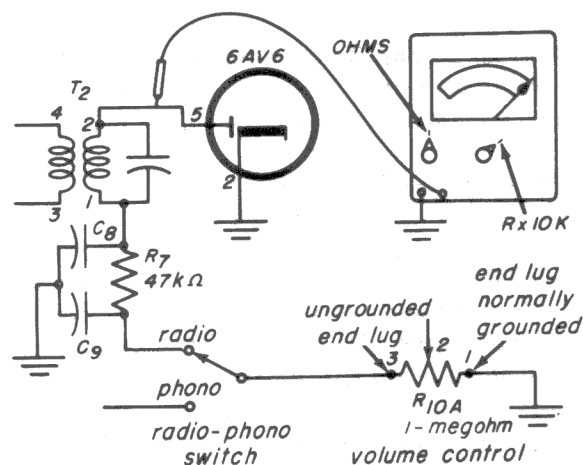

Fig. 19-10
There is a continuous electric path between the diode plate and the volume control (Fig. 19-10). Turn the volume control maximum clockwise. Touching the diode plate with your finger-held screwdriver is the same as touching the volume control. When you touch the plate, you should hear a hum or buzz from the speaker—just as you hear a hum when you touch the volume control. If you do not hear the hum when you touch the diode plate, this means that the continuous path to the volume control is broken.
Check with your ohmmeter to find out where it is broken (Fig. 19-10). The normal resistance from pin 5 of the 6AV6 to ground is the sum of the resistance of T_2 (between
2. You move the meter probe from pin 5 (Fig. 19-10) to terminal 1 of T_2 . Still, the meter shows infinite resistance. You move the probe to the *radio* terminal of the switch; the resistance is infinite. You move it to terminal 3 of the volume control; the resistance here is 1,000,000 ohms. So, the break must be between terminal 3 of the control and the *radio* terminal of the switch. To double check, you return the probe to the *radio* terminal—infinite resistance, again. You throw the switch. The meter pointer moves to the 1,000,000 ohm mark. You have found the trouble.
2. You move the probe from pin 5 (Fig. 19-10) to terminal 1 of T_2 . The meter pointer indicates zero. You move the probe to the *radio* terminal of the switch. The meter indicates 47,000 ohms, the resistance of R_7 . Now, you know the short is at terminal 1 of T_2 . The short must be at the point of lowest resistance.